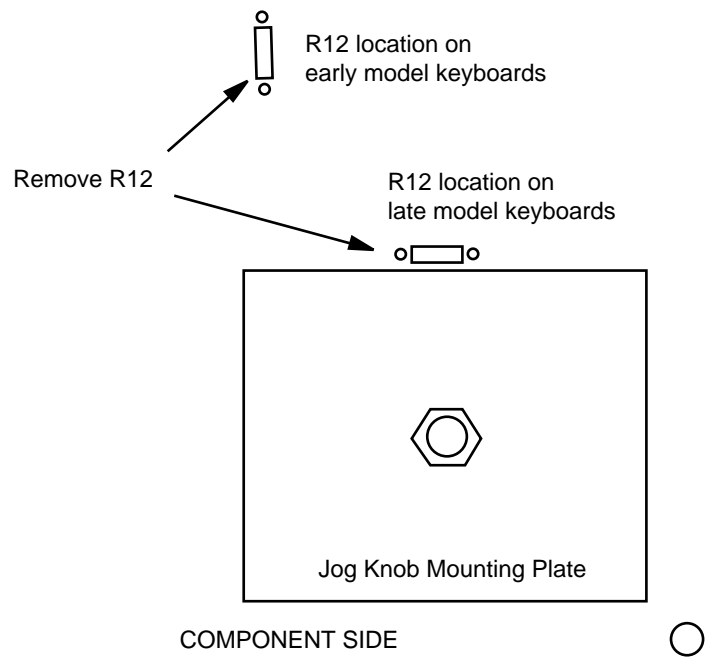

Figure 2. Location of Resistor R12
5. **For both keyboard models**, clip out resistor R12, which is located above the jog knob on the component side of the pc board. Note that the location of R12 is slightly different for early and late model keyboards (Figure 2).